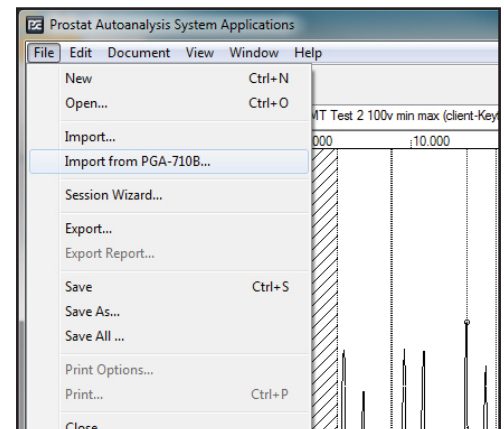

Figure 54: Use the File Menu to Import Data
- Or, Open **File** drop down menu and select Import from PGA-710B. (See Figure 54.)